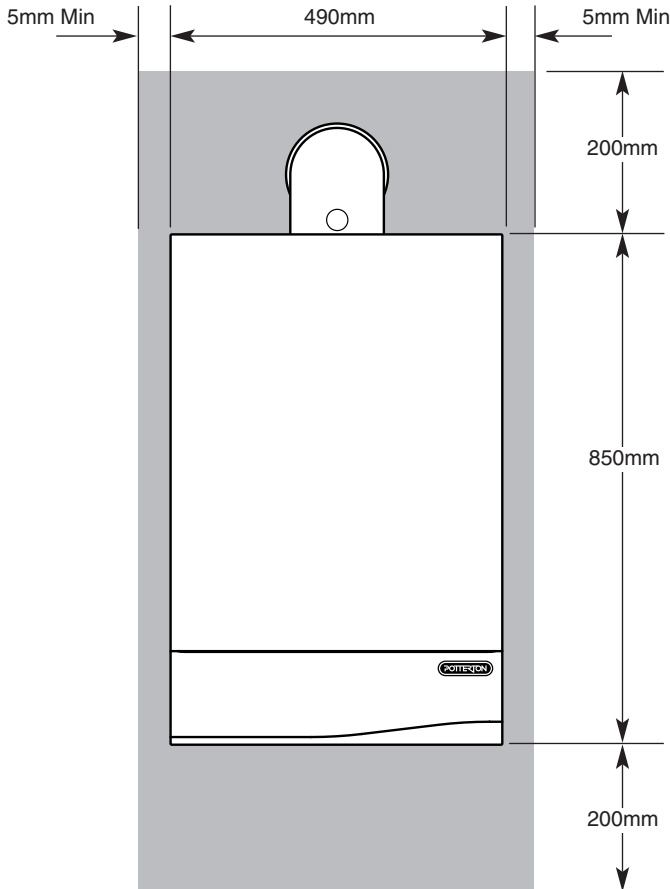

Fig. 12
7.3 Clearances (Figs. 12 & 13)